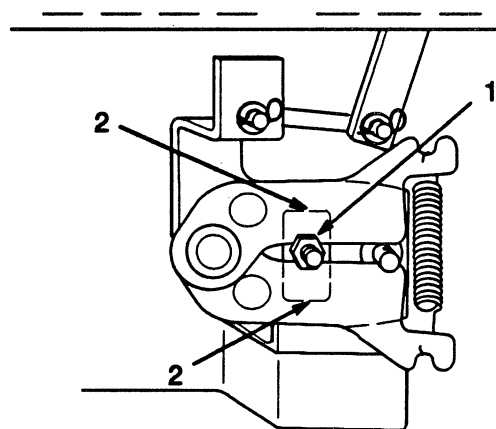

Figure 7
2. Loosen locknut securing adjustment (Fig. 7).
3. Move adjustment stud up or down until creep is minimized (Fig. 7). There may still be some wheel rotation with wheels off the ground.
4. Tighten the locknut (Fig. 7). Move the traction control pedal forward and reverse and allow it to center. Verify that there is still no creep with the wheels on the ground.
After adjusting the hydro neutral position it is necessary to check the traction control pedal. While pressing the control pedal full forward and full reverse it must not contact the footrest pad before hitting the stop(s) at the transaxle (Fig. 7).